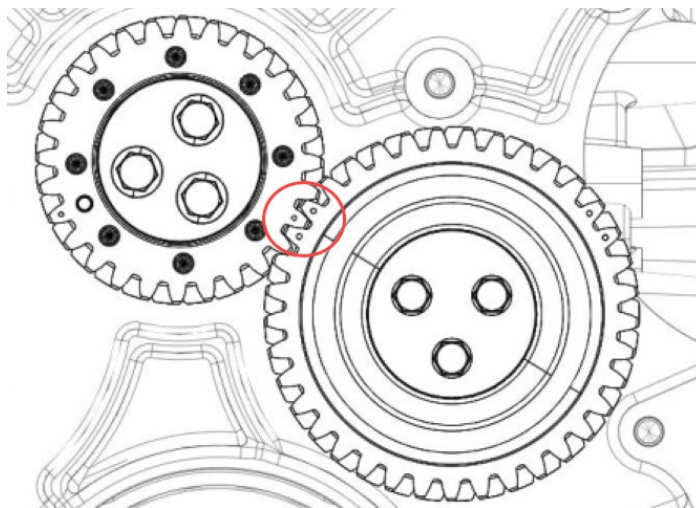

Figure 119.
4. Oil the idler gear (Figure 119) and install onto the engine block, ensure to install the two-timing marks between the single (already installed) smaller timing mark (Figure 119).